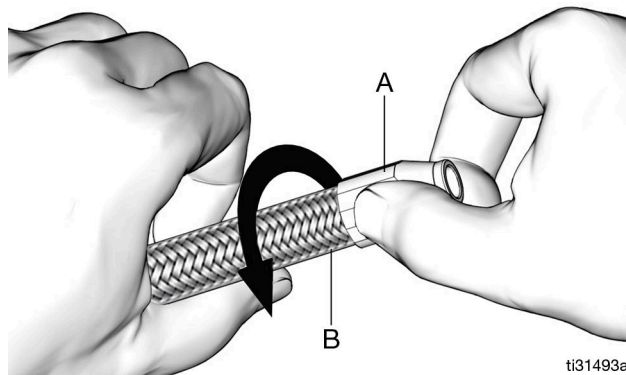

FIG. 65
4. Slide the socket (a) over the cut end of hose (b). Hand tighten the socket to hose by turning the socket counter-clockwise into hose (FIG. 65).